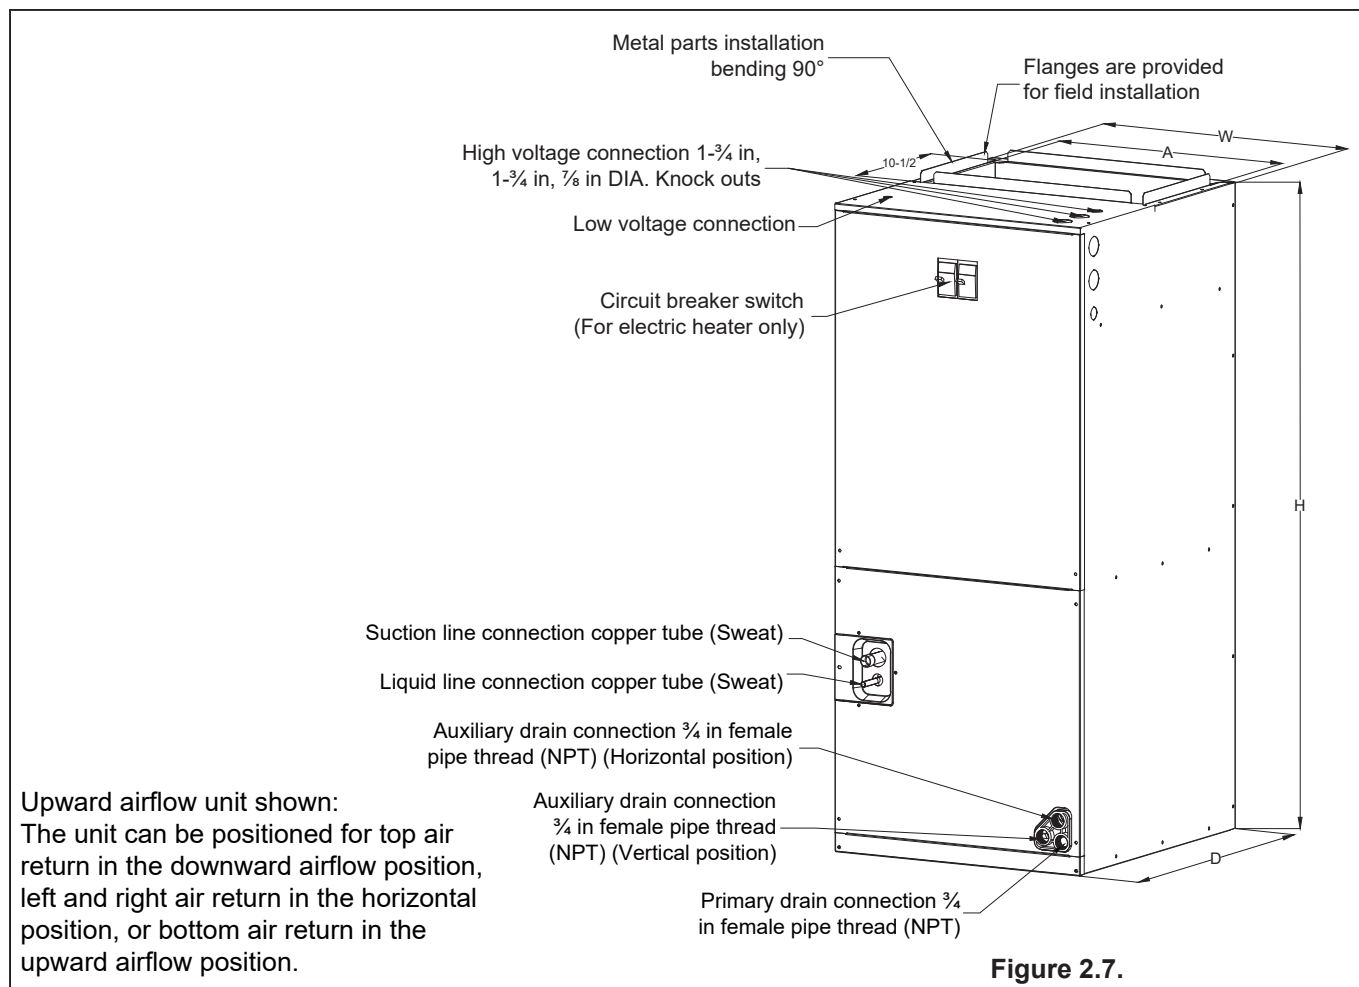

Figure 2.7.
- The vertical upward airflow configuration is the factory default configuration of all models (see Figure 2.7.)